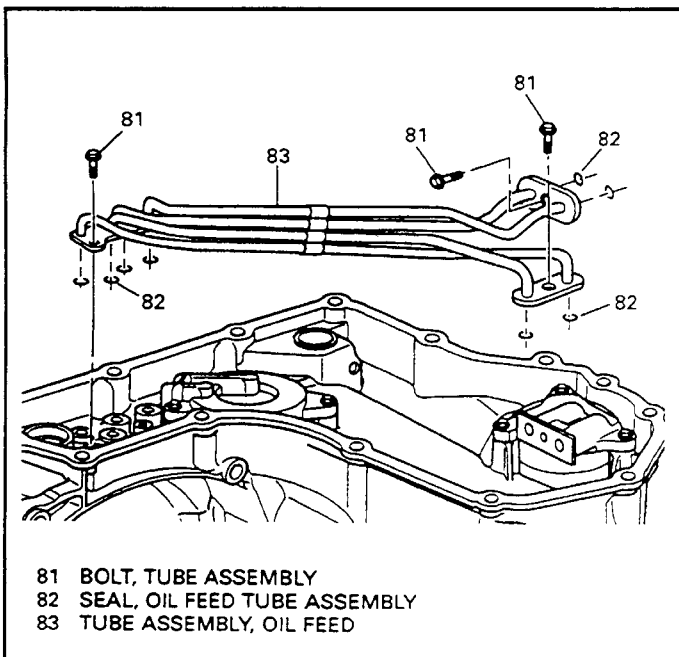

Figure 195
15. Install the oil feed pipe assembly onto transaxle as shown Figure 195, hand start the four bolts, and torque bolts to 9 ft.lb.